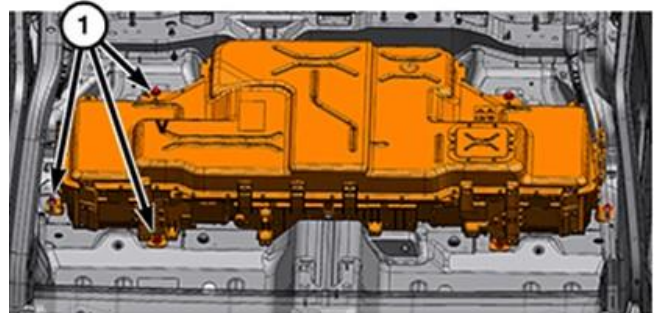

Figure 26 – HV Battery Bolts
40. Remove the bolts (1) securing the HV battery to the vehicle (Figure 26).
49. Install the HV battery pack bolts (1) and tighten to (Figure 26):